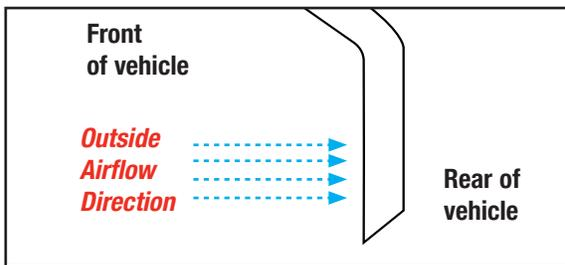

Figure 3 - Outlet Vent for Open Configuration
- Ensure that the venting location of the outlet is on the rear of the vehicle or the bottom rear of the engine compartment and pointing vertically downward (see Figure 3).